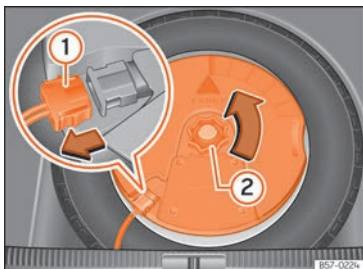

Fig. 191 In the boot: remove the subwoofer.
- Disconnect the subwoofer's speaker cable >>> Fig. 191 ①.
- Turn the securing wheel anti-clockwise >>> Fig. 191 ②.